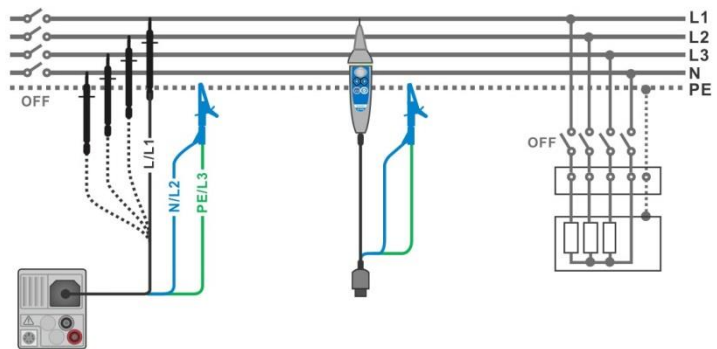
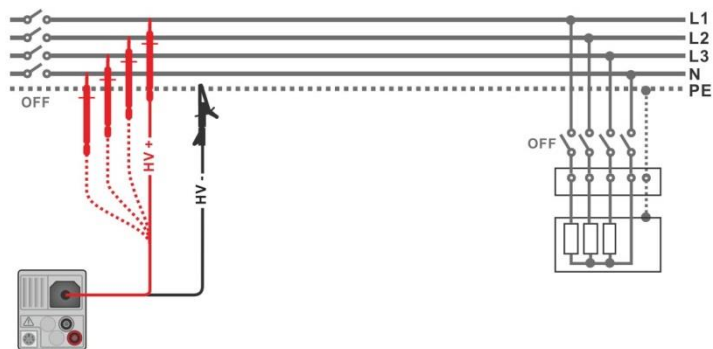

Figure 7.12: Connection of 3-wire test lead and Tip commander ( $U_N \leq 1 \text{ kV}$ )
Figure 7.13: Connection of 2.5 kV test lead ( $U_N = 2.5 \text{ kV}$ )
- › Connect test leads to object under test (see **Figure 7.12** and **Figure 7.13**). Different test cable must be used for testing with nominal test voltage  $U_N \leq 1000 \text{ V}$  and  $U_N = 2500 \text{ V}$ . Also, different test terminals are used. The standard 3-wire test lead, Schuko test cable or Plug / Tip commanders can be used for the insulation test with nominal test voltages  $\leq 1000 \text{ V}$ . For the 2500 V insulation test the two wire 2.5 kV test lead should be used.